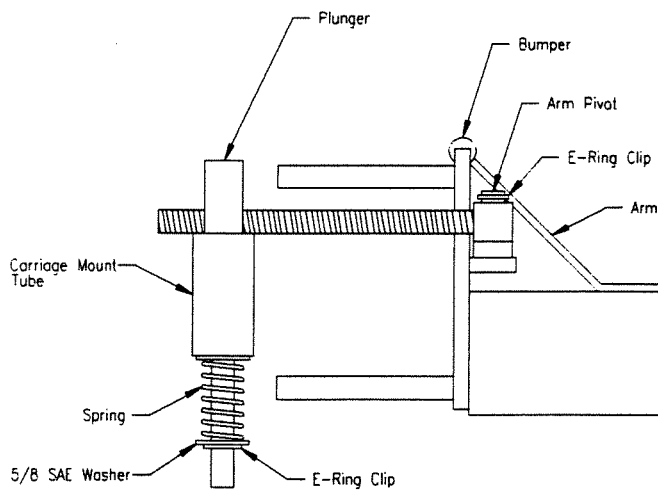

FIGURE 15
34. Install the swing arm slide locks as shown in Figure 15. The 11" sliders are installed on the short swing arms.
37. Raise the lift to the top of its travel and lower it the floor three (3) times (WITHOUT A CAR) to remove the last air from the hydraulic system.
38. Install the rubber bumper strips on the tops of the long swing arms. They just push right on. Figure 15 on following page.